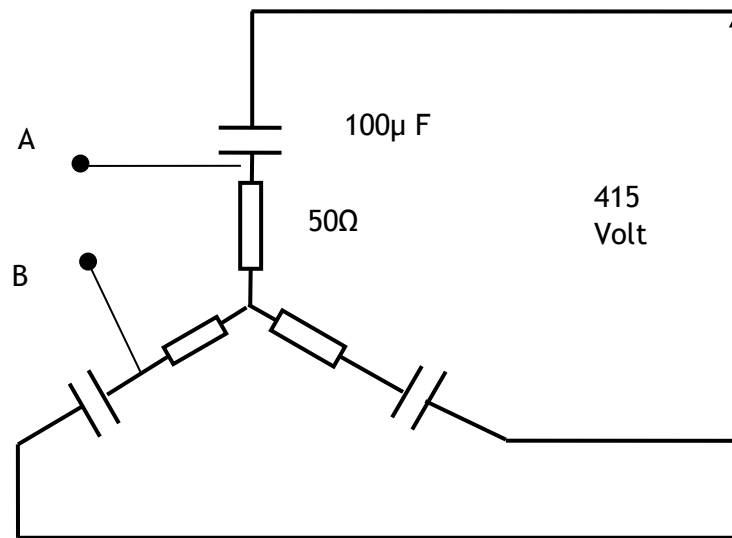

Fig Q5
- (d) Calculate the value of capacitor which would have to be connected in series with the coil to raise the current to 3 A with a leading power factor. (5)
5. Fig Q5 shows three identical loads, each consisting of a $100\ \mu\text{F}$ capacitor in series with a $50\ \Omega$ resistor, connected in star to a 415 V, 3ph, 50 Hz supply.